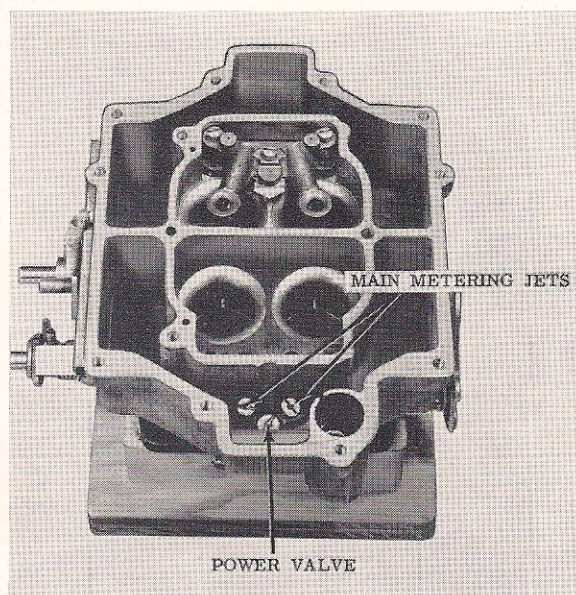

Figure 7-22
8. Install the fiber gasket and power valve assembly on the pump (Primary) side of the carburetor. (Figure 7-22.)
9. Install both main metering jets on the primary or pump side of the carburetor. Be certain the proper jets (last two digits of part number stamped on jet) are installed. (Figure 7-22.)